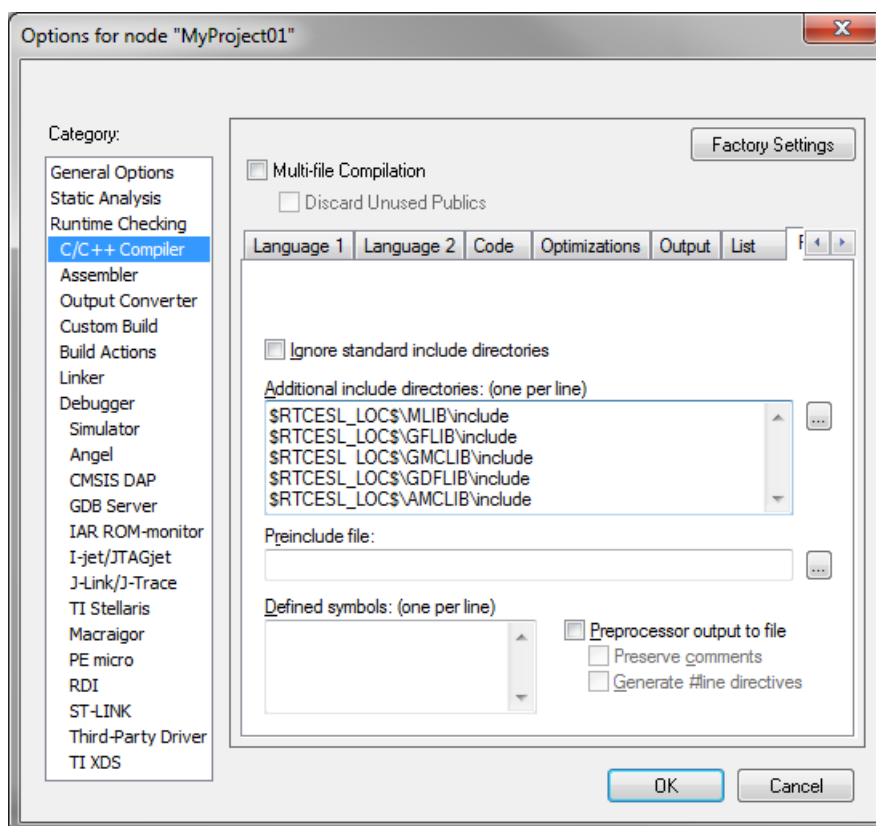

Figure 1-47. Library path addition
5. Click OK in the main dialog. See Figure 1-47.